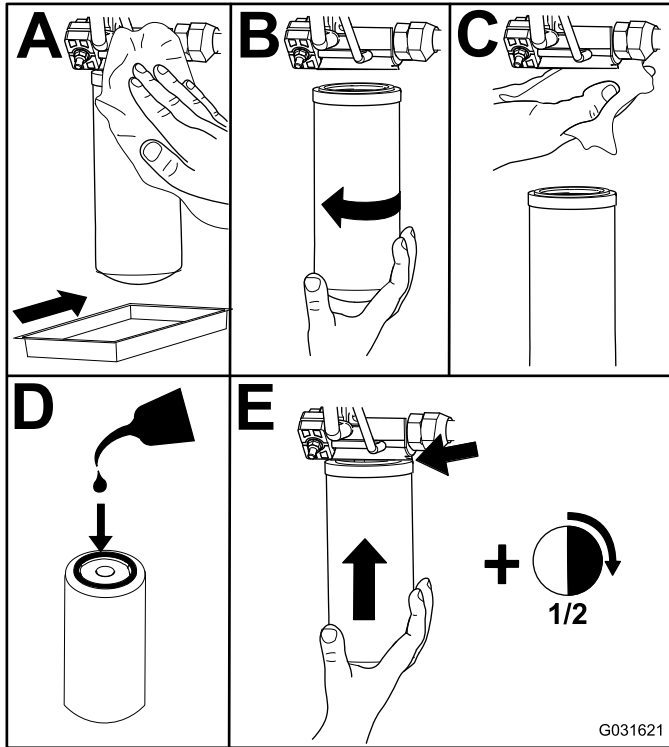

Figure 68
2. Replace the charge hydraulic filter at the hydraulic lift compartment as shown in Figure 68.
4. Replace the return filter at the right side of the machine (Figure 68).